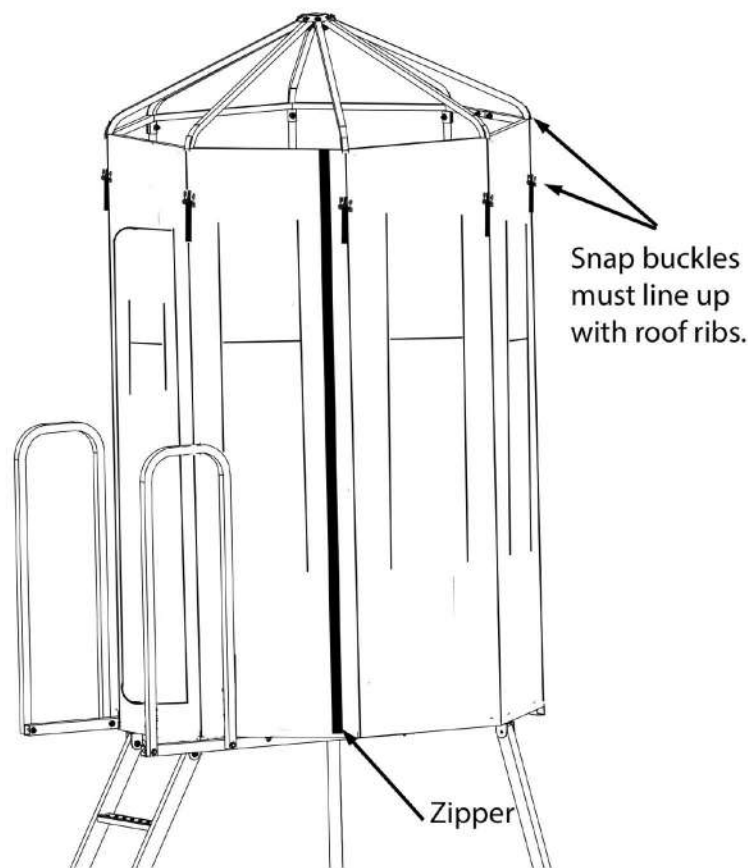

Figure 19.
Step 19. Install the blind cover. The cover can be installed standing inside of the blind. Locate the zipper, while one person holds the zipper in the approximate location on the roof main frame as seen in Figure 19 the other person wraps the fabric around the blind making